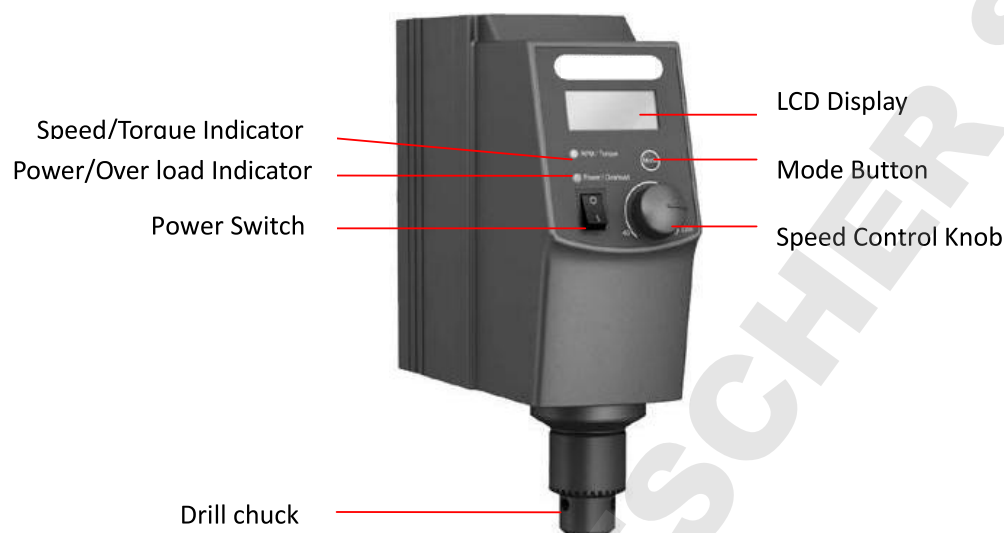

FIG.1
Fig. 1 is the schematic diagram of OS40 (20)-Pro Digital Overhead Stirrer. On control panel of the instrument, there are LCD display, mode button, speed control knob, speed/torque indicator, power/overload protection indicator, and power switch. And on the back of instrument, there are RS232 interface and power outlets. After properly connect the power cord and turn on power switch, you can set experimental conditions on the control panel by speed control knob, real-time observe setting values and actual values of parameters on LCD screen.